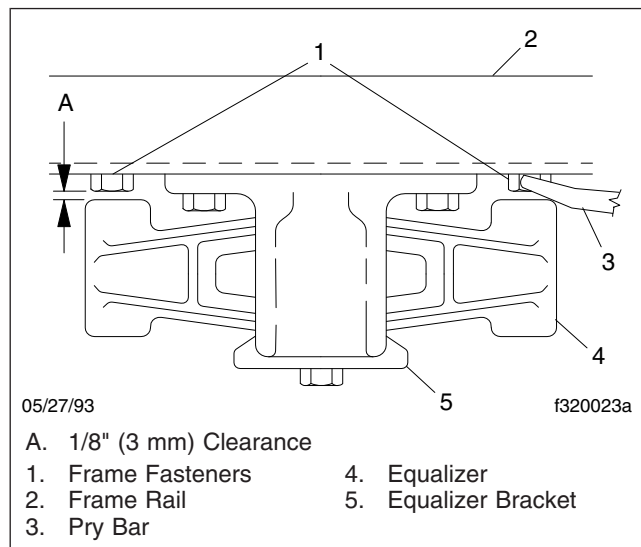

Fig. 5, Top View of the Equalizer
- With the vehicle unloaded, attempt to move the equalizer side to side, using a pry bar between the equalizer and frame rail. Apply hand pressure only. See **Fig. 5**. If clearance between the equalizer assembly and any frame component or fastener is less than 1/8 inch (3 mm), replace the